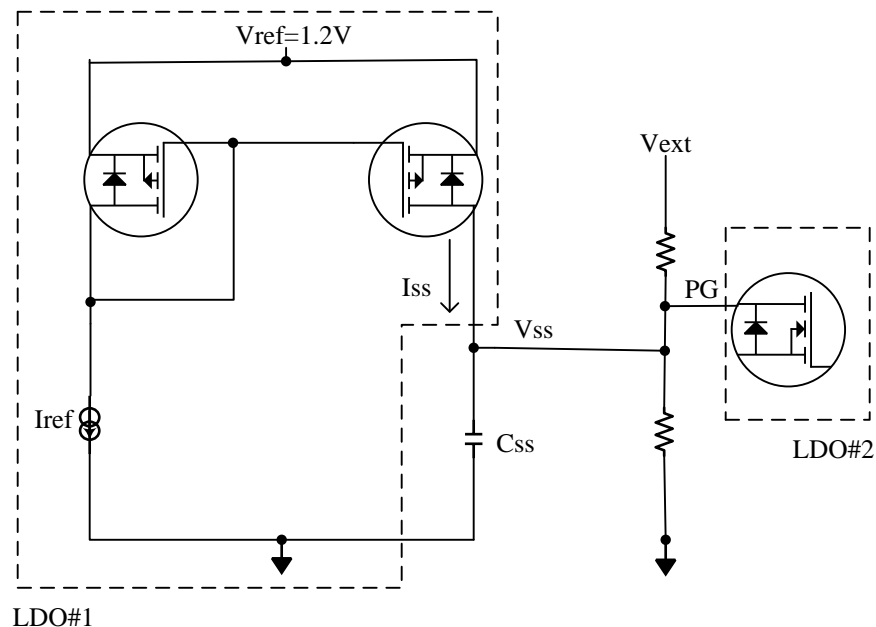

Figure 12. Sequencing LDO1 by Power Good Signal of LDO2
7.3.2 Power Good (PG)
Power Good terminal (9) is an open-drain connection and can be used to sequence multiple LDOs. Figure 12 shows typical connection. As shown, maximum voltage at PG terminal must be limited to <1.2 V in order not to forward bias the internal MOSFET diode of PMOS current mirror circuitry.